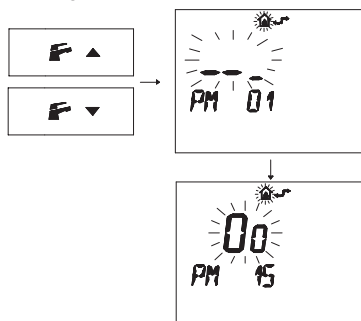

Fig. 7.13
- Press buttons  or  to display the "PM15" program that enables the external probe (Fig. 7.13).